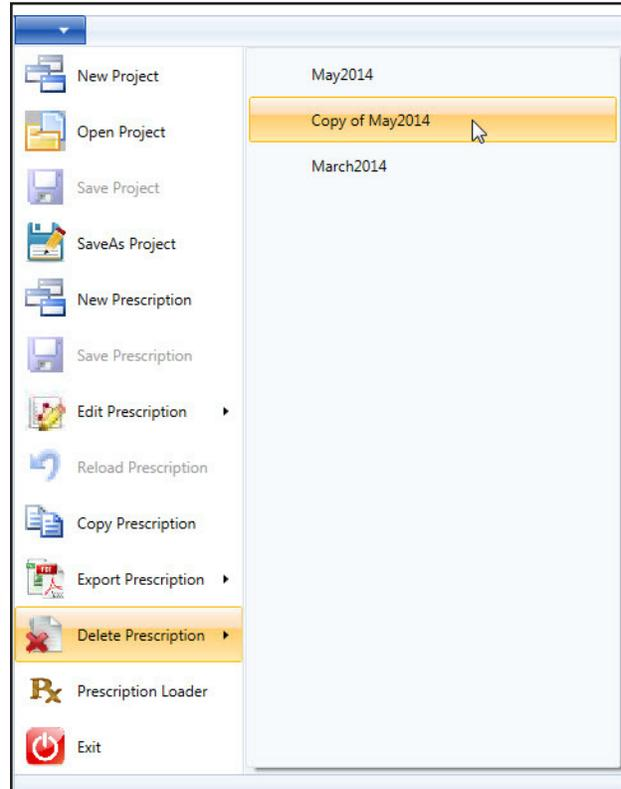

Figure 34-1 Delete Prescription
2. Select **Delete Prescription** in the VRI drop-down menu, and click on the name of the prescription in the right-hand column. (Refer to Figure 34-1.)